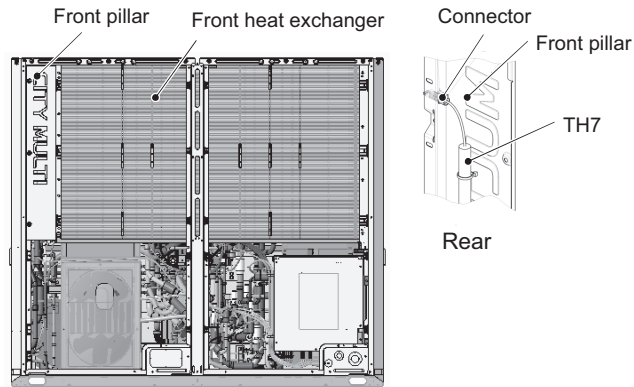

Figure 17
Removing the standard front heat exchanger (Figure 17)
- (15) Remove the front pillar by unscrewing the 7 screws. (See Figure 17.)
- (16) Disconnect the TH7 sensor holder from the front pillar. (See Figure 17 Rear.)
(19) To remove the front heat exchanger, remove the screws on the front right pillar. (3 screws, Figure 17)